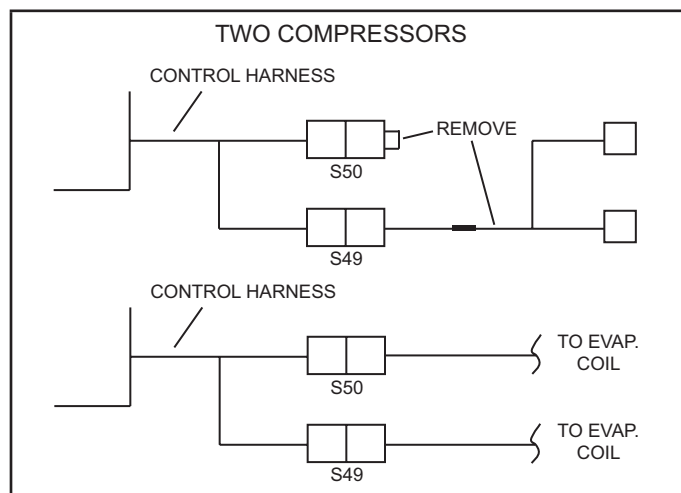

FIGURE 9. Remove and Discard Jumper Harness
- 1 - Remove and discard jumper harness on control harness. Refer to figure 9.